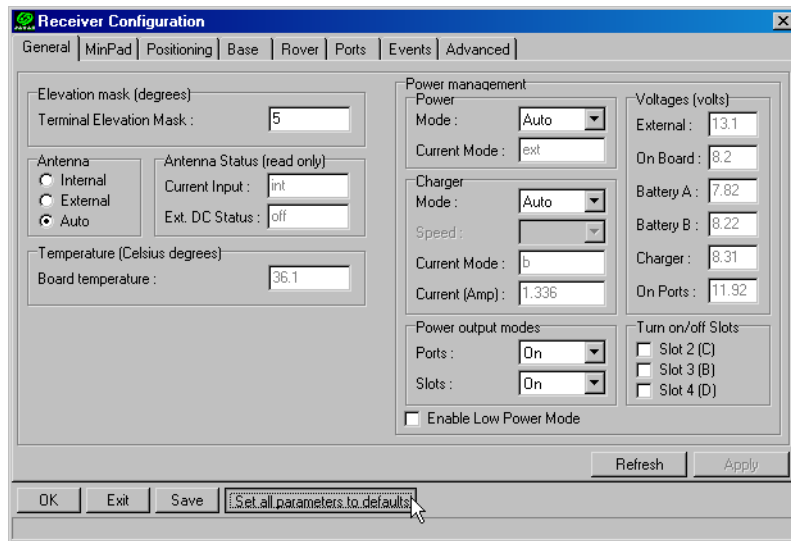

Figure 3-9. Set All Parameters to Defaults
- Click the **Set all parameters to defaults** button located at the bottom of the Receiver Configuration screen (Figure 3-9).